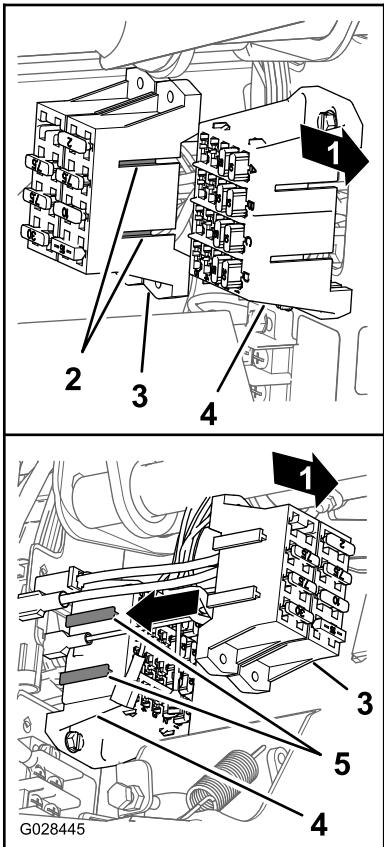

Figure 24
6. Align the T-fittings on the of the fuse block of the sprayer to the T-slots of the fuse block for the machine and slide the sprayer fuse block into the slots until the fuse block is fully seated (Figure 24).